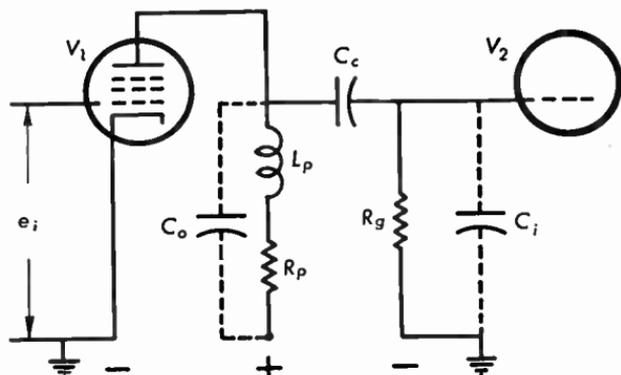

Fig. 11.36a Video amplifier with high-frequency compensation by using a shunt-peaking coil.
11.36 In the video amplifier of Figure 11.36a,  $R_p = 2000$  ohms,  $r_p = 100,000$  ohms,  $L_p = 50$  microhenries,  $C_c = 0.25$  microfarad,  $R_g = 2$  megohms,  $C_i = 12.5$  micromicrofarads,  $C_o = 7.5$  micromicrofarads, the transconductance of  $V_1$ ,  $g_m = 7700$  micromhos. Calculate the voltage gain at 4 megacycles (a) with the shunt peaking coil  $L_p$  short-circuited, (b) with the shunt peaking coil  $L_p$  in the circuit.